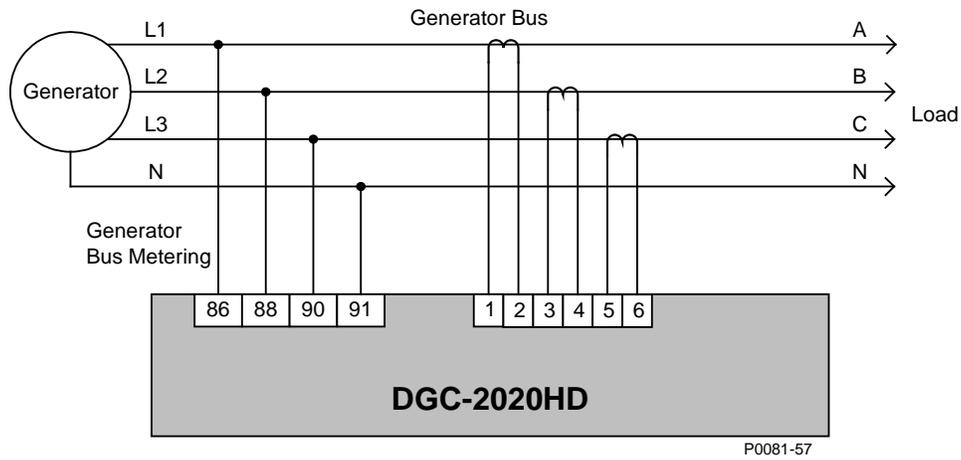

Figure 10. No Breaker Control Connections
- No breaker control Figure 10